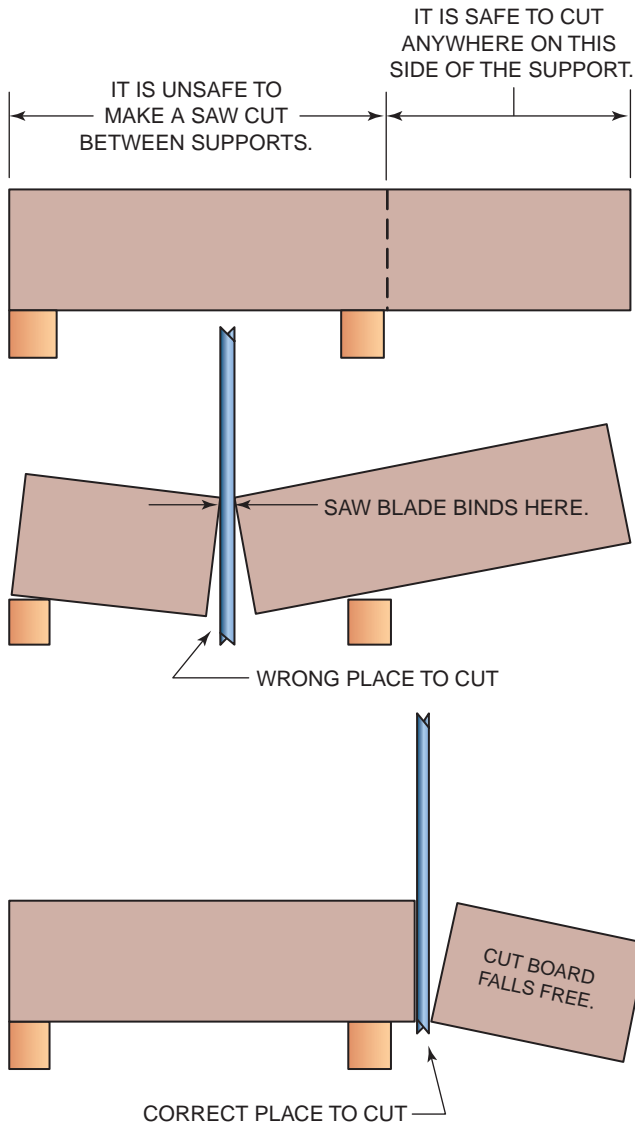

FIGURE 2-55 Properly locate supports before making a cut.
The rotating saw blade makes a narrow cut, called a *kerf*, as it passes through the wood. If the piece being cut is not properly supported, the kerf can be squeezed together, binding the saw blade. A light amount of binding may cause the wood to smoke and the saw motor to slow. With enough binding, the saw motor will stall. Binding can occur quickly, and when the blade suddenly binds and stops, the saw will kick back. Severe kickback can cause the spinning blade to jump out of the kerf. The blade can then grab the wood's surface, which will jerk the saw back. Fingers, hands, arms, legs, and feet that are in the path of the spinning saw can be severely cut or severed. To prevent binding and kickback, the wood being cut must be properly supported, **Figure 2-55**.
- Support the work solidly with the cut line beyond the end of the support so the cut will fall free and not bind the blade, **Figure 2-55**.